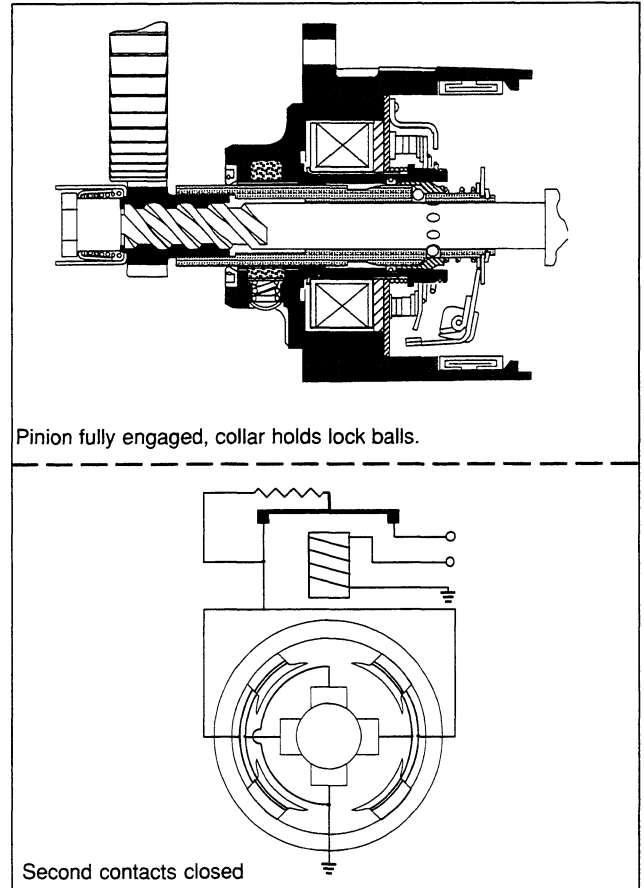

Fig. 4 Cranking Position
1.2.3 Cranking position (see fig. 4)